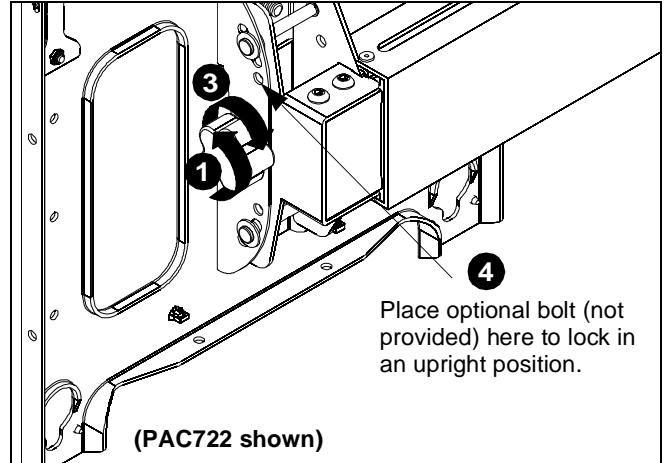

Figure 9
- Turn knob counterclockwise on back of faceplate to loosen the tilt. (See Figure 9)
- Turn knob clockwise to tighten display on head assembly. (See Figure 9)
- If leaving the display in a straight upright position, it is recommended that a bolt (not provided) be placed through the faceplate (See Figure 9) to lock the display into the upright position.